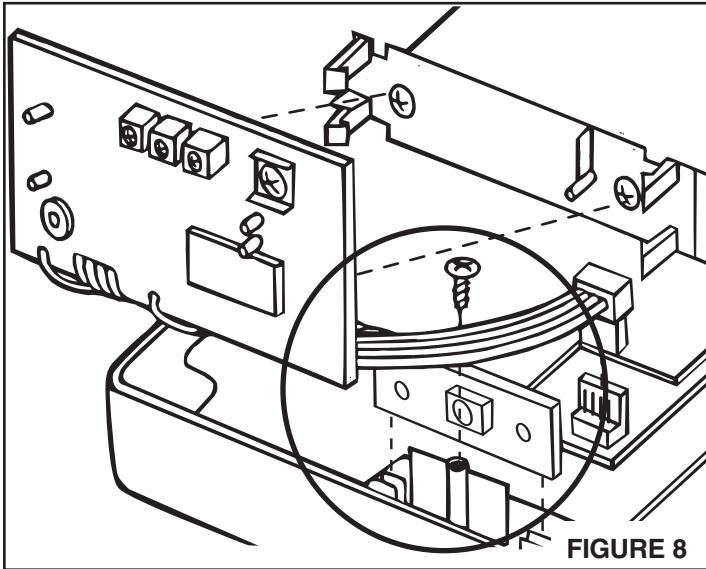

FIGURE 8
1. Refer to Figure 8. Locate the chime selector switch mounting bracket in the master unit.